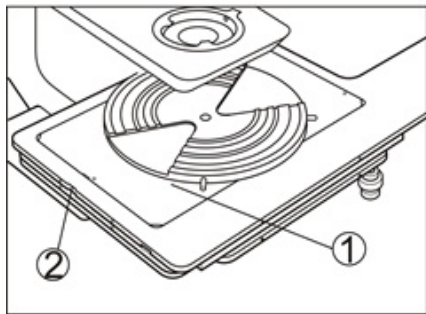

Fig. 3
Installing the Wafer Holder Plate (Fig. 3)
1. Insert the wafer holder plate ① along one side of the stage.
3. Tighten the screw ② on the side of the stage with the Allen wrench to secure the wafer holder plate.(Fig.3)